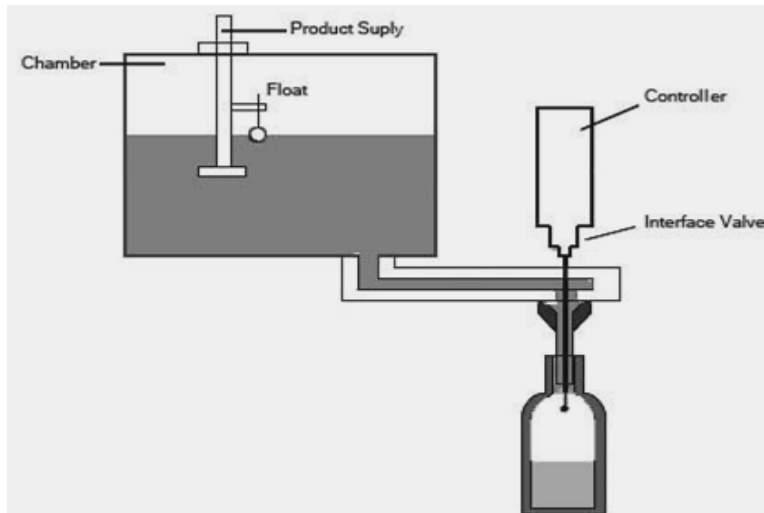

Figure 20.18 Level sensing filling
- Making it possible to fill containers to a level without establishing an airtight seal between the tops of the containers and the filler valves (Figure 20.18).